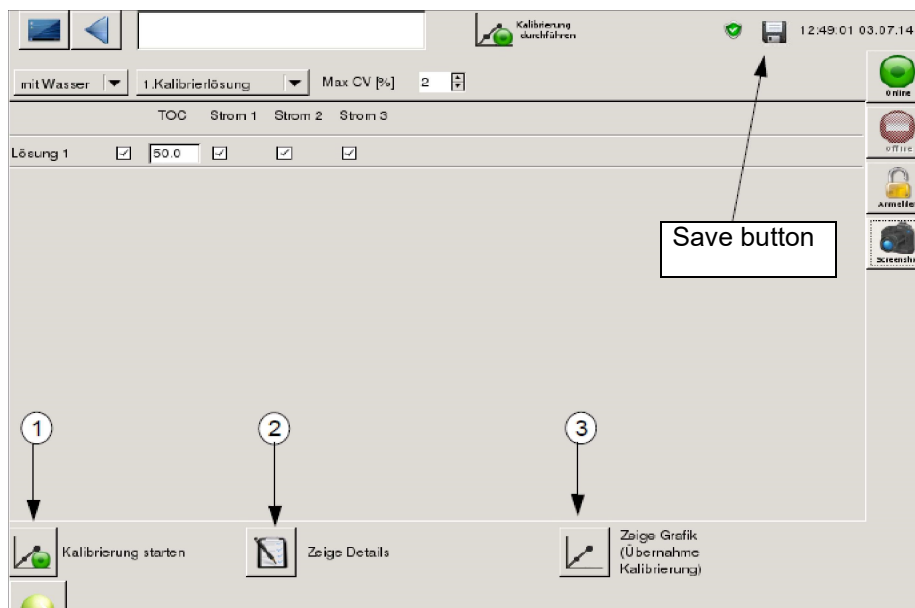

Fig. 44: Perform Calibration Screen (Example)
5. To accept the new calibration concentration, save it with the floppy disk symbol (Fig. 44, page 76).